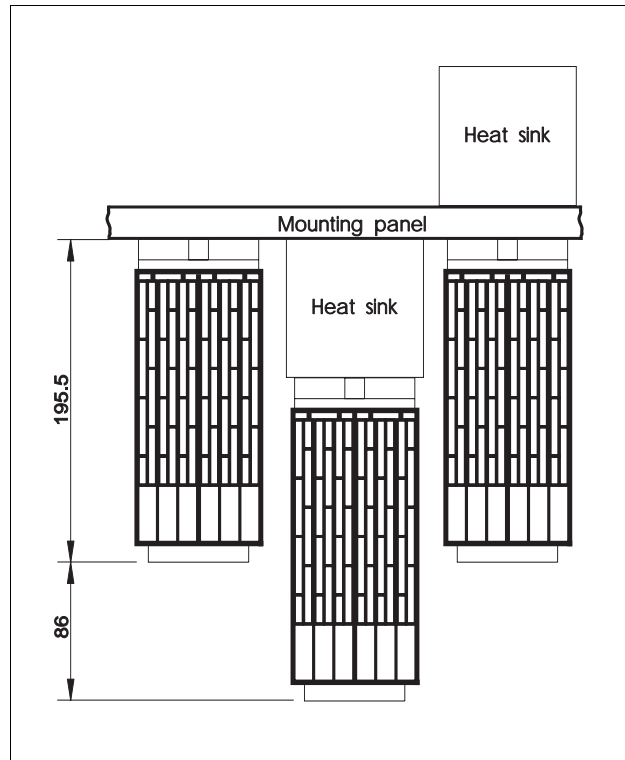

Fig. 6-10 Mounting head sink
The heat sink (fig. 6-10 and 6-11) can be attached inside or outside the switch cabinet.
1. The heat sink is mounted inside the cabinet (fig. 6-10).
1. The heat sink is mounted outside the cabinet surface (fig. 6-10).